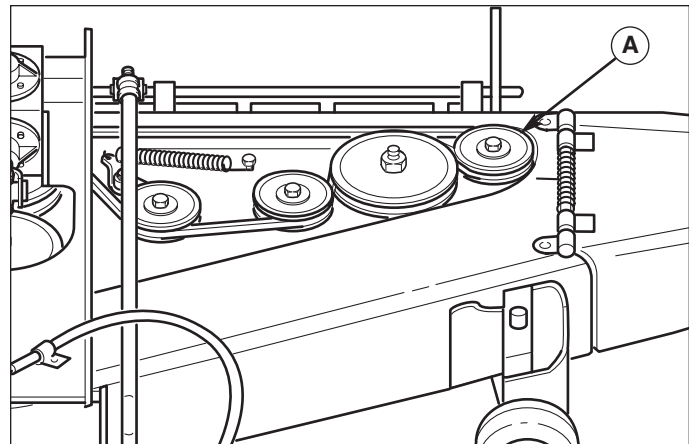

Figure 2. Idler Pulley Bracket
2. Remove and discard the existing idler pulley (A, Figure 2) and hardware. Note which hole the idler pulley was installed in deck. The new pulley should be installed in same hole.